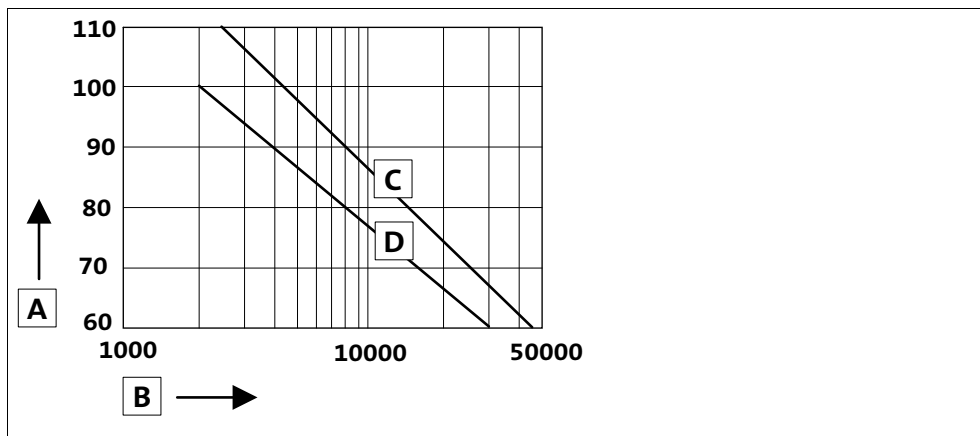

Fig. 9 Lubricant diagram
- The lubricant change depends on the lubricant temperature, see Fig. 9.